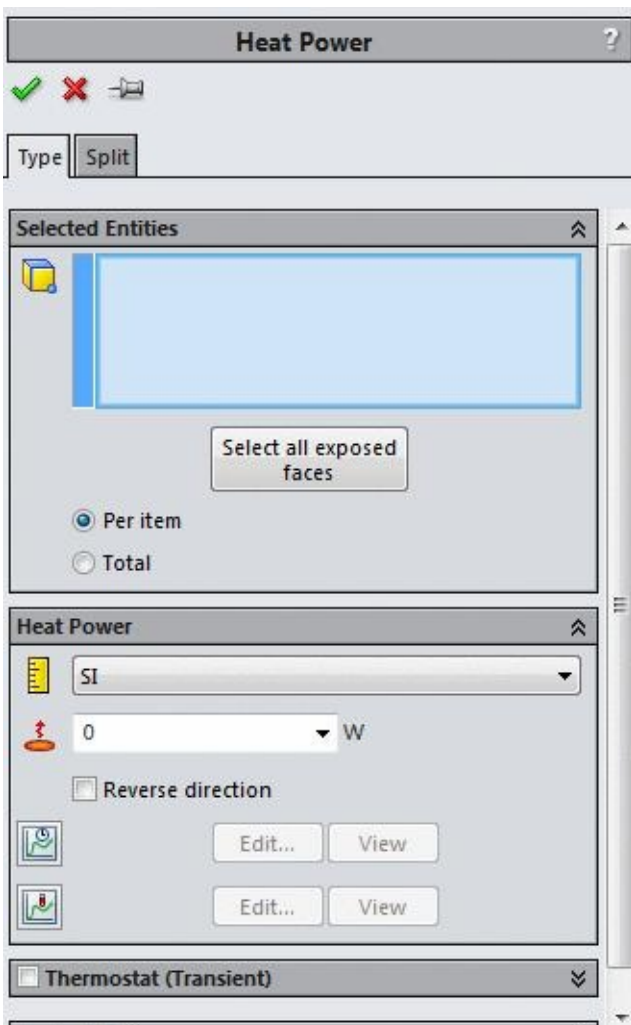

Figure-8. Heat Power PropertyManager
- Click on the **Heat Power** button from the list. The **Heat Power PropertyManager** will be displayed; refer to Figure-8.